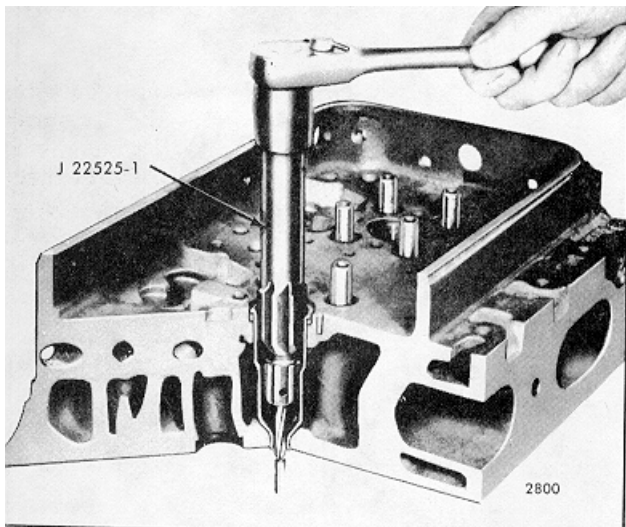
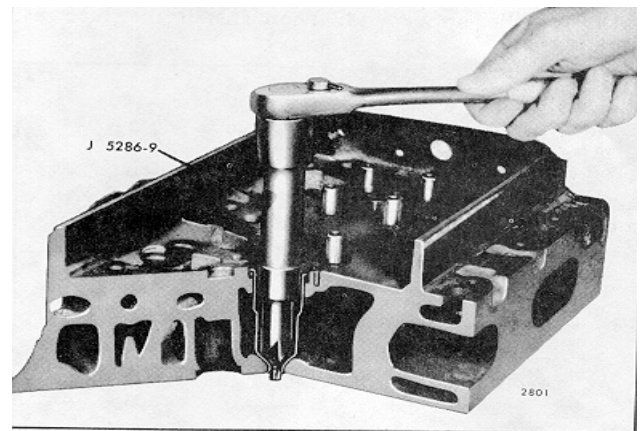

Fig. 4 Reaming Injector Tube for Injector Body Nut and Spray Tip
Fig. 5 - Reaming Injector Tube for Injector Nut
After an injector tube has been installed in a cylinder head, it must be finished in three operations: First, hand reamed, as shown in Fig. 4, to receive the injector body nut and spray tip; second, spot-faced to remove excess stock at the lower end of the injector tube; and third, hand reamed, as shown in Fig. 5, to provide a good seating surface for the bevel or the lower end of the injector nut. Reaming must be done carefully and without undue force or speed so as to avoid cutting through the thin wall of the injector tube.
- b. Turn the reamer in a clockwise direction (withdrawing the reamer frequently for removal of chips) until the lower shoulder of the reamer contacts the injector tube (Fig. 4). Clean out all of the chips.